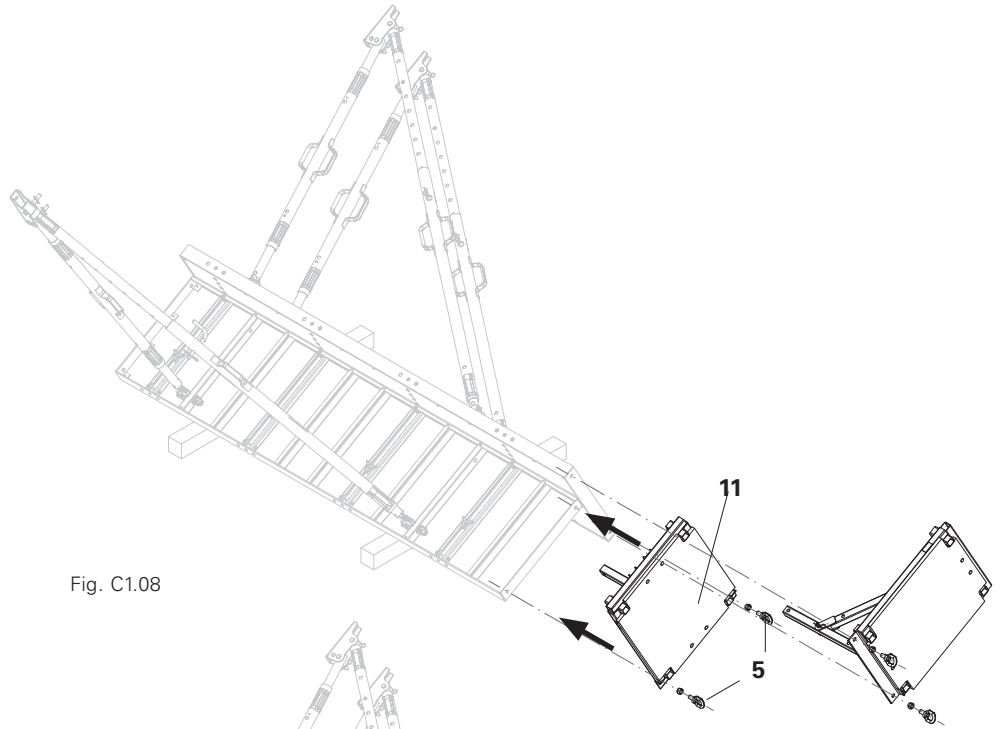

Fig. C1.08
1. Fix concreting platform (11) to the column panel by means of Eye Bolts M20 and Nuts (5). (Fig. C1.08)